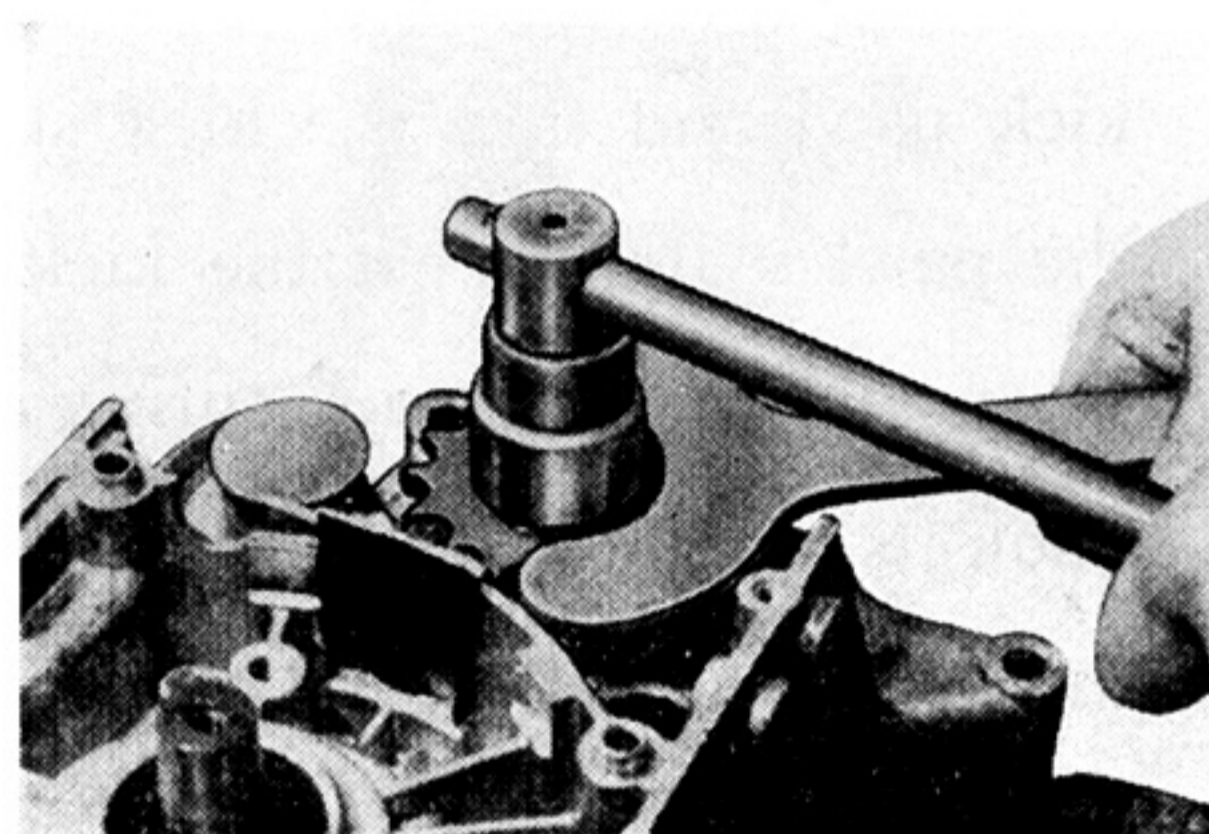

Fig. 3-12-2
- b. Keep the drive sprocket from turning with the flywheel magneto holding tool, then loosen the sprocket nut. (Fig. 3-12-2)